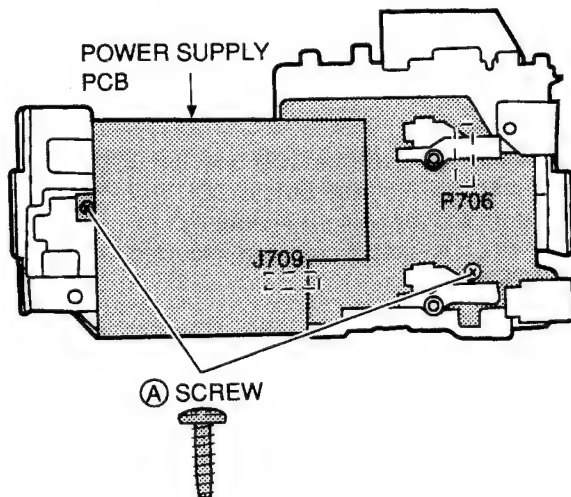

Fig. 3-1
1. Remove the two ① screws which retain the POWER SUPPLY PCB as shown in Fig. 3-1.